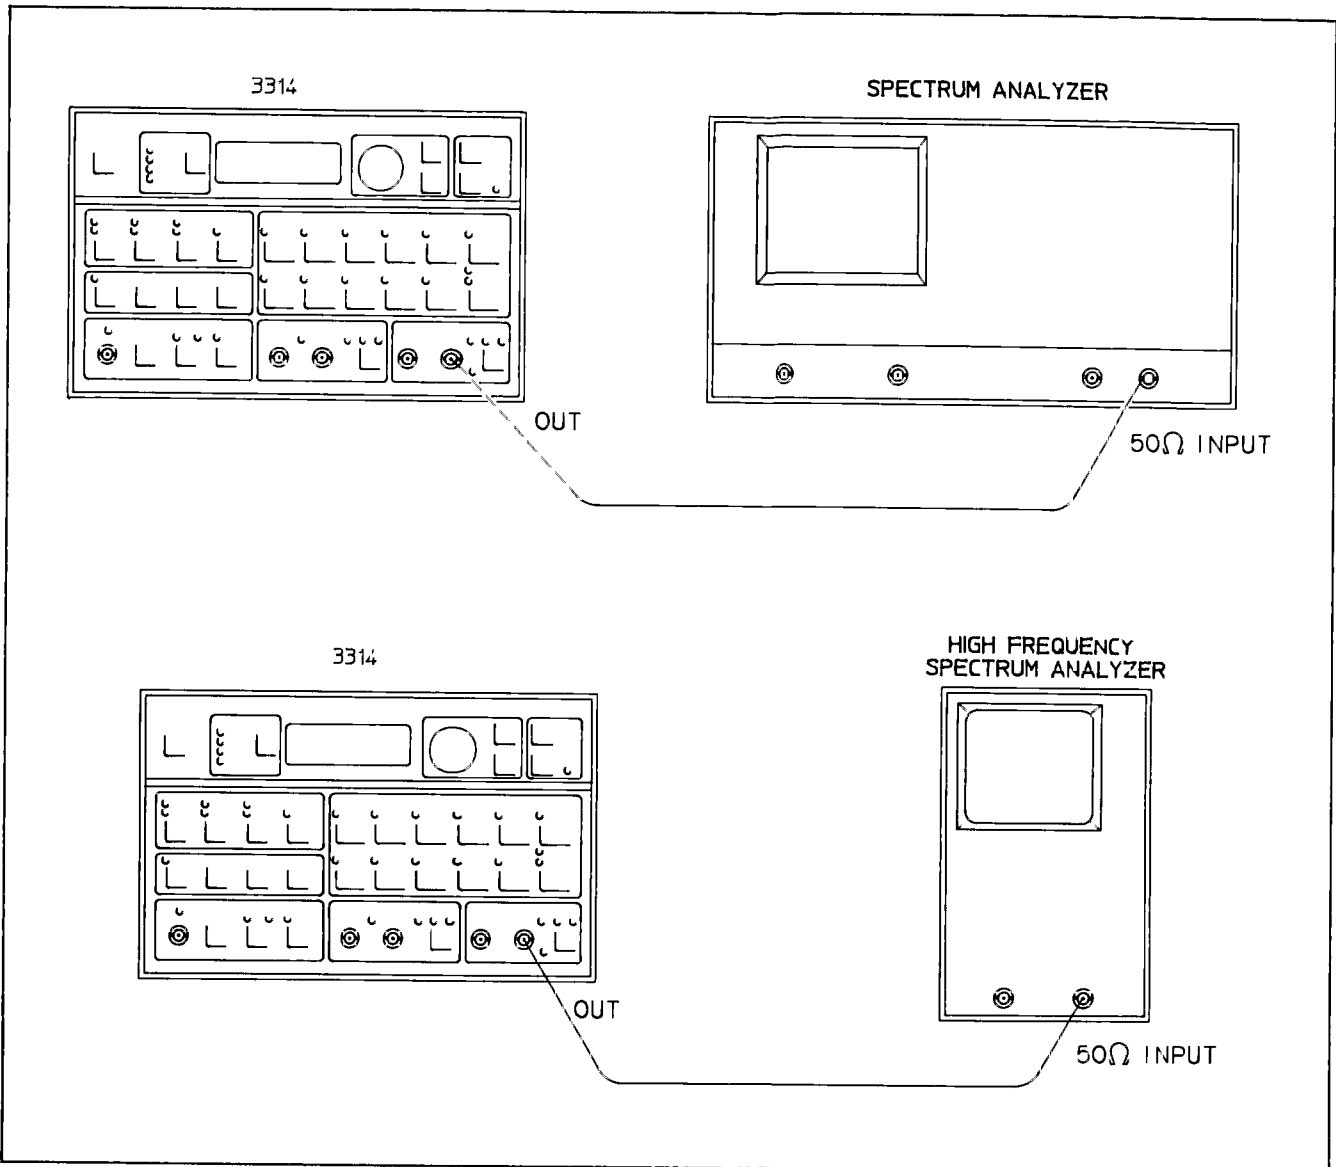

Figure 4-9. Sine Wave Harmonics
- C. Connect the 3314A to the Spectrum Analyzer as shown in Figure 4-9
K. To measure the harmonics of the frequencies listed in Table 4-7, connect the 3314A to the High Frequency Spectrum Analyzer as shown in Figure 4-9.